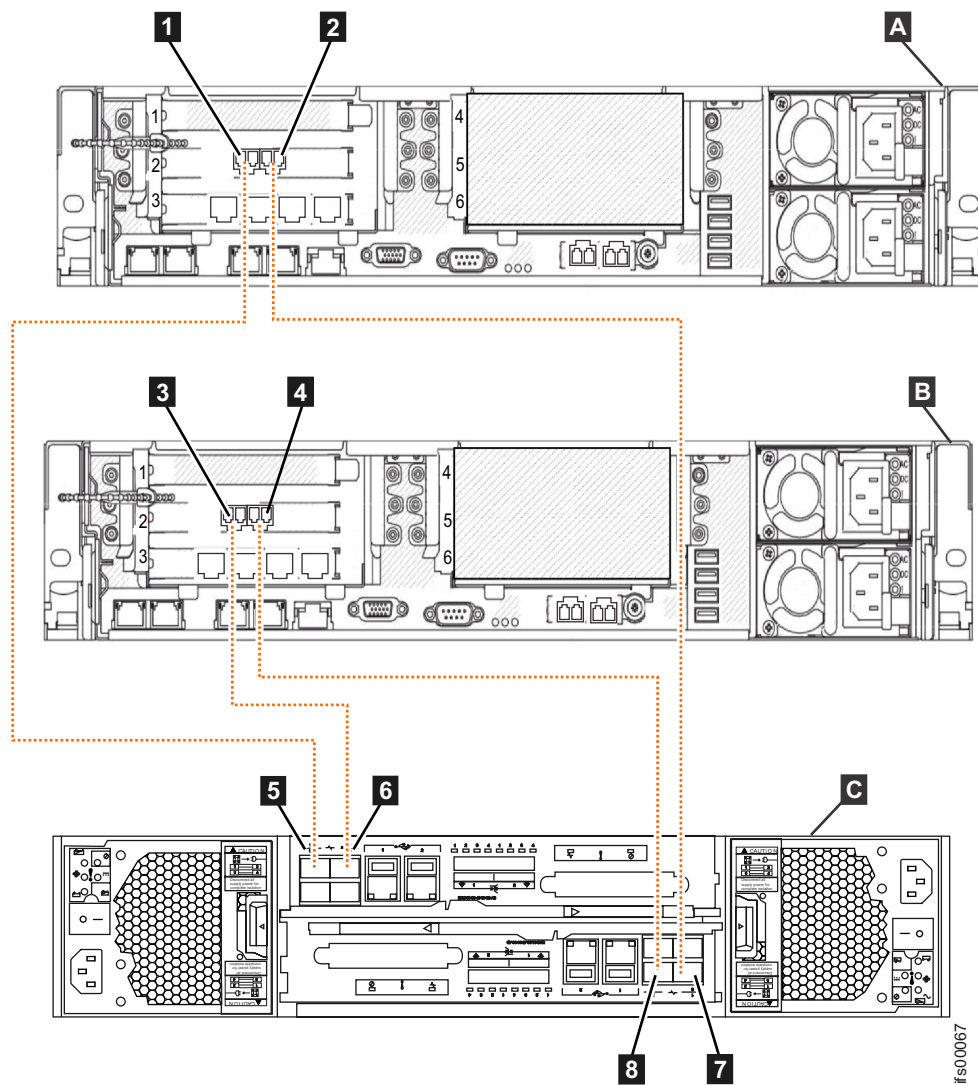
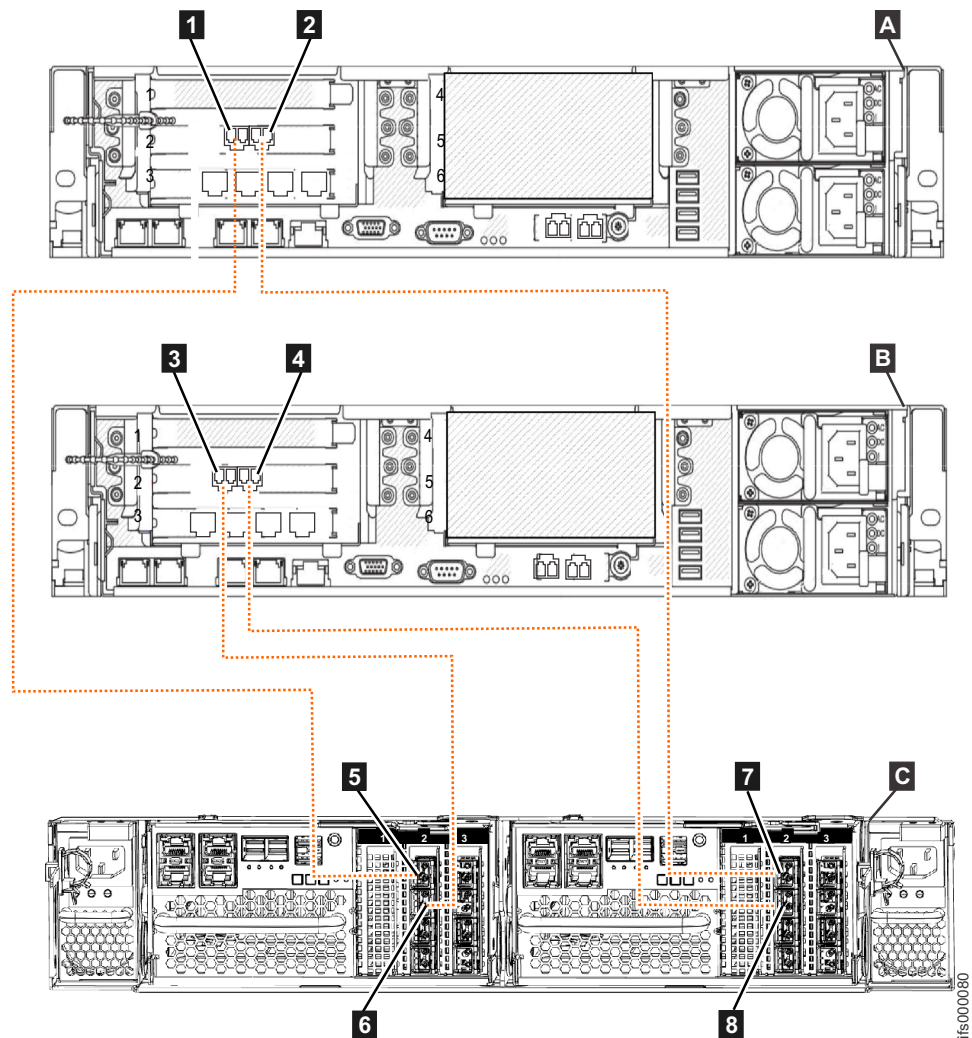

Figure 54. Connecting the file modules to the Storwize V7000 Gen1 control enclosure using Fibre Channel cables
Figure 55. Connecting the file modules to a Storwize V7000 Gen2 control enclosure that has a Fibre Channel interface card in PCI slot 2 of each node canister
3. Before you continue, make sure that you have connected the Fibre Channel cabling as shown in Figure 54 (Storwize V7000 Gen1) or Figure 55 on page 65 (Storwize V7000 Gen2) to ensure proper redundancy. Incorrect cabling might result in a loss of service during system maintenance procedures.